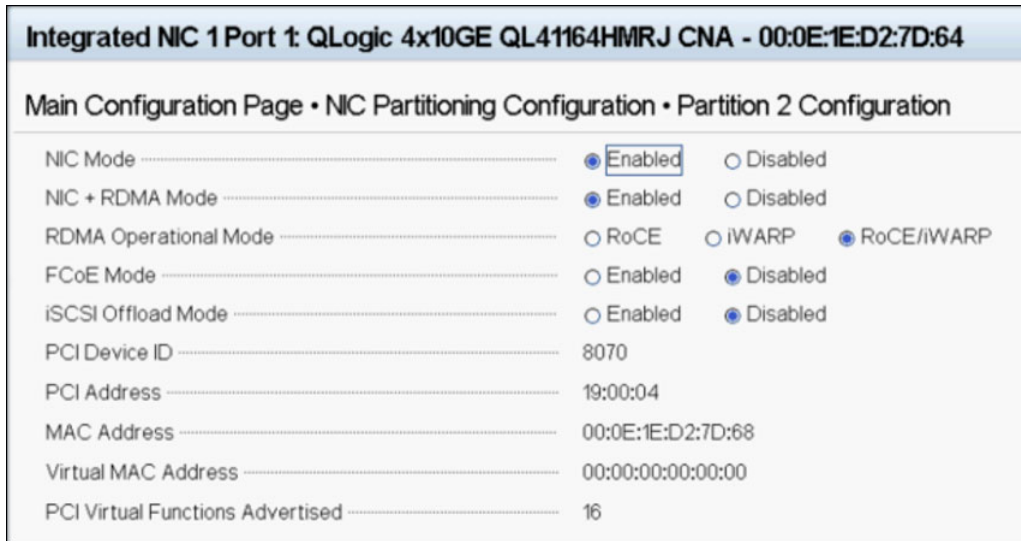

Figure 6-20. Integrated NIC: Partition 2 Configuration for VMware
11. Complete the Partition 2 Configuration page (see Figure 6-20) as follows: